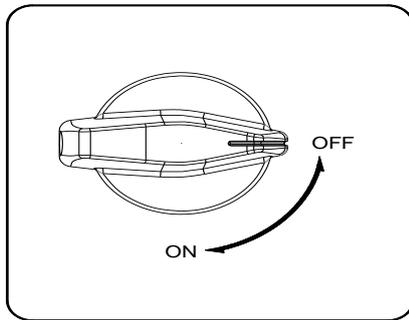

FIG 4-17 DC switch
Step 2: Check if the polarity of the connection cables and connectors for the PV strings is correct, as shown in FIG 4-17. (Note: If the DC input polarity is reversed, the inverter will not operate properly.)